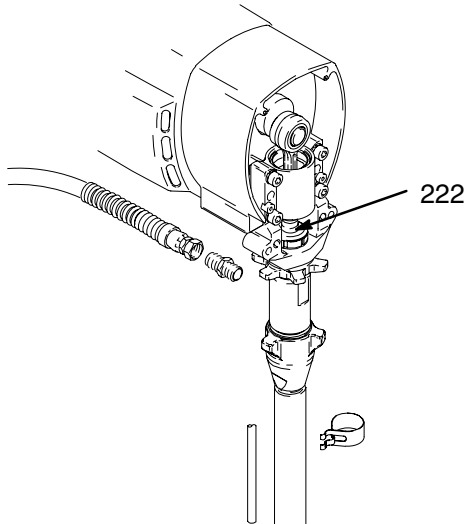

Fig. 20 _____ 7672A
1. Flush pump. Relieve pressure. Fig. 20. Cycle pump with piston rod (222) in its lowest position.
2. Fig. 20. Unscrew suction tube and hose from pump.